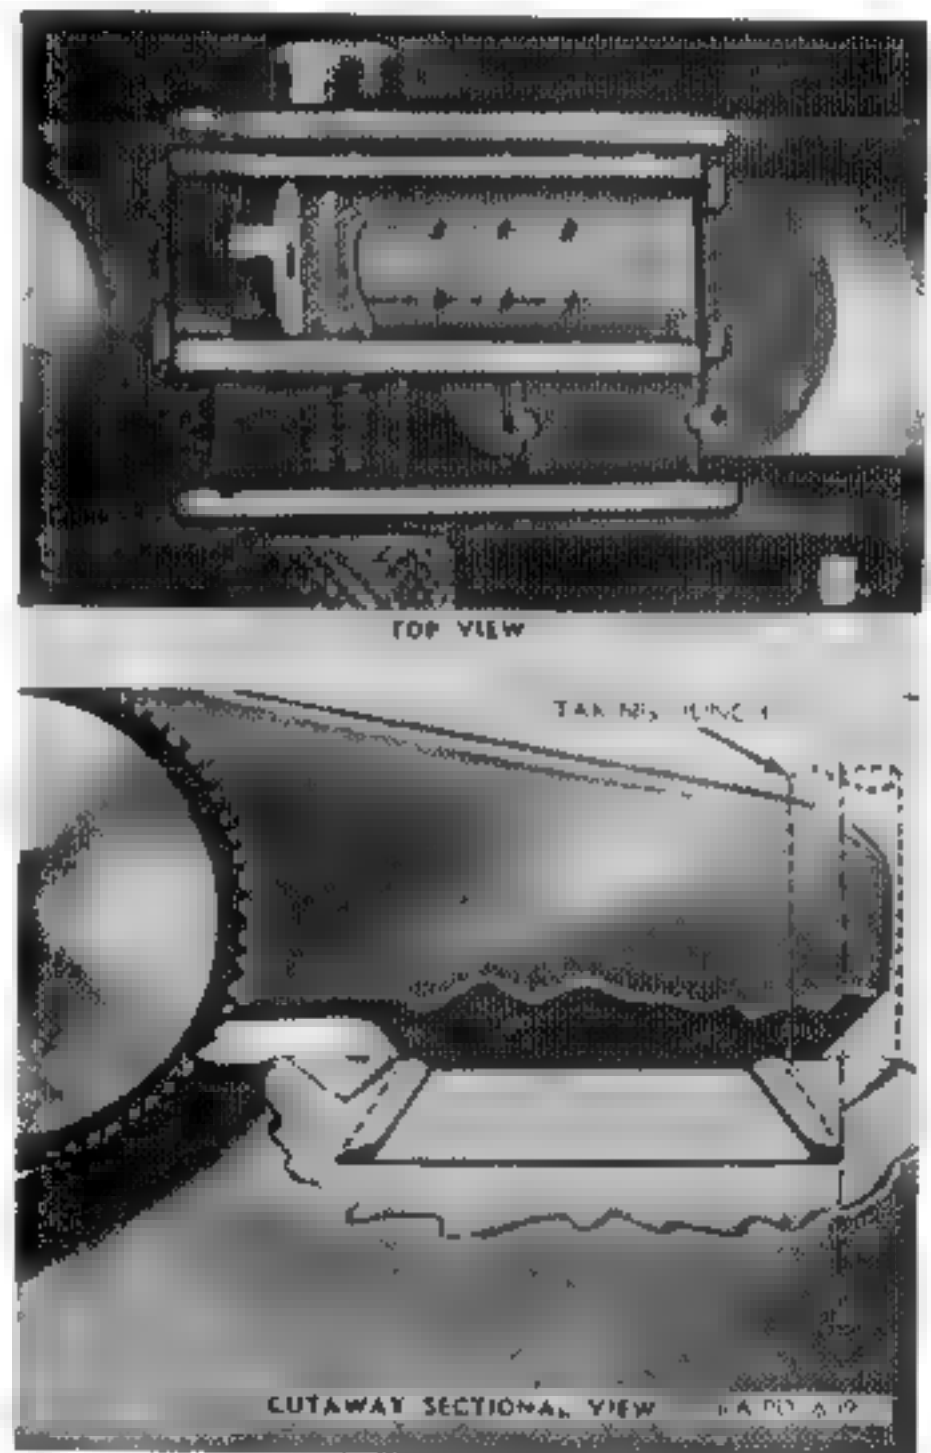

Figure 73. Rear sight showing staking.
(1) If reading is below 18 inch-pounds indent the area in front of the dovetail slot. This can first be done by using punch 7312234 (Fig. 73) and rapping punch with a hammer. Undertake this operation with extreme caution. A blow only hard enough to cause a flow of metal into the dovetail slot is necessary.
**Note.** The staking operation is extremely critical and success of this operation will depend largely upon the skill and judgment of the operation (Fig. 73). Bear in mind that the sharp upper edges of the dovetail slot on the receiver are easily chipped or cracked, and such damage will ultimately result in an unserviceable weapon. Many problems will arise which will have to be solved by the individual mechanic; a few of these problems and their remedies are listed in (1) and (2) below.
(1) Indents on sight base dovetail may be horizontally misaligned with references to holes in sight base. If the indents are slightly out of horizontal alignment they may be corrected by enlarging the indents very slightly with a small three-square file.